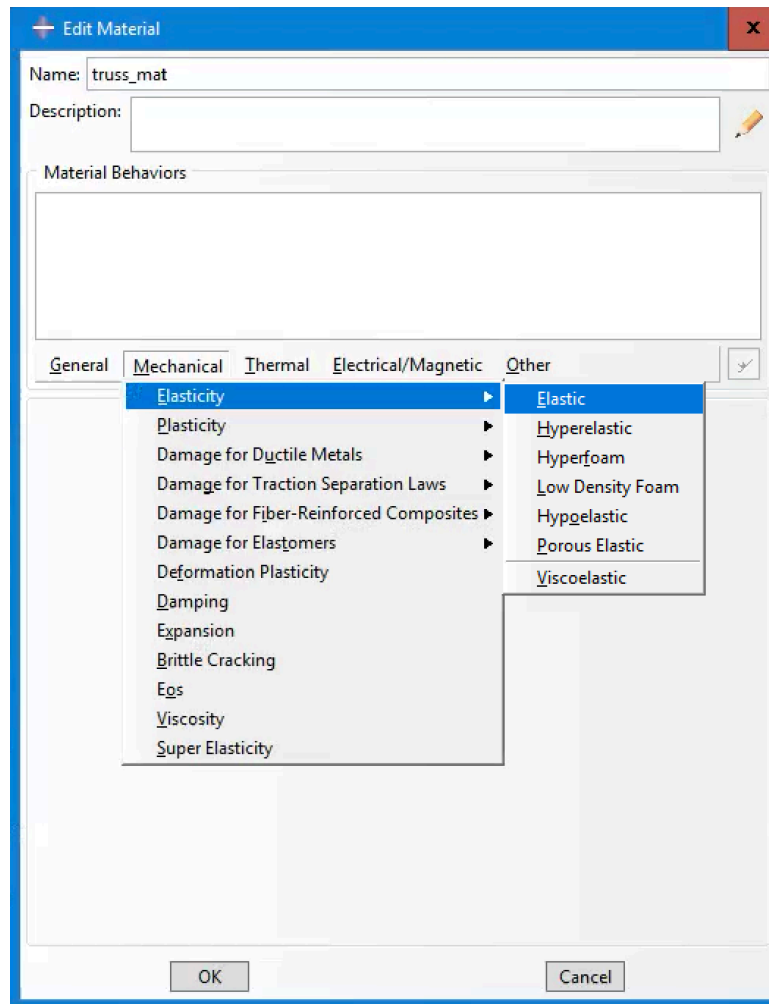

Figure 10 Creating material properties
- Click on **Create Material** button to appear the Edit Material dialog box. Since all the members of the truss are made of the same material, one material is enough to be defined. It is also enough to define the mechanical properties. First, name this material truss_mat. You can also add some description about this material. Then, click on the **Mechanical** tab, then **Elasticity**, and **Elastic** (Figure 10).